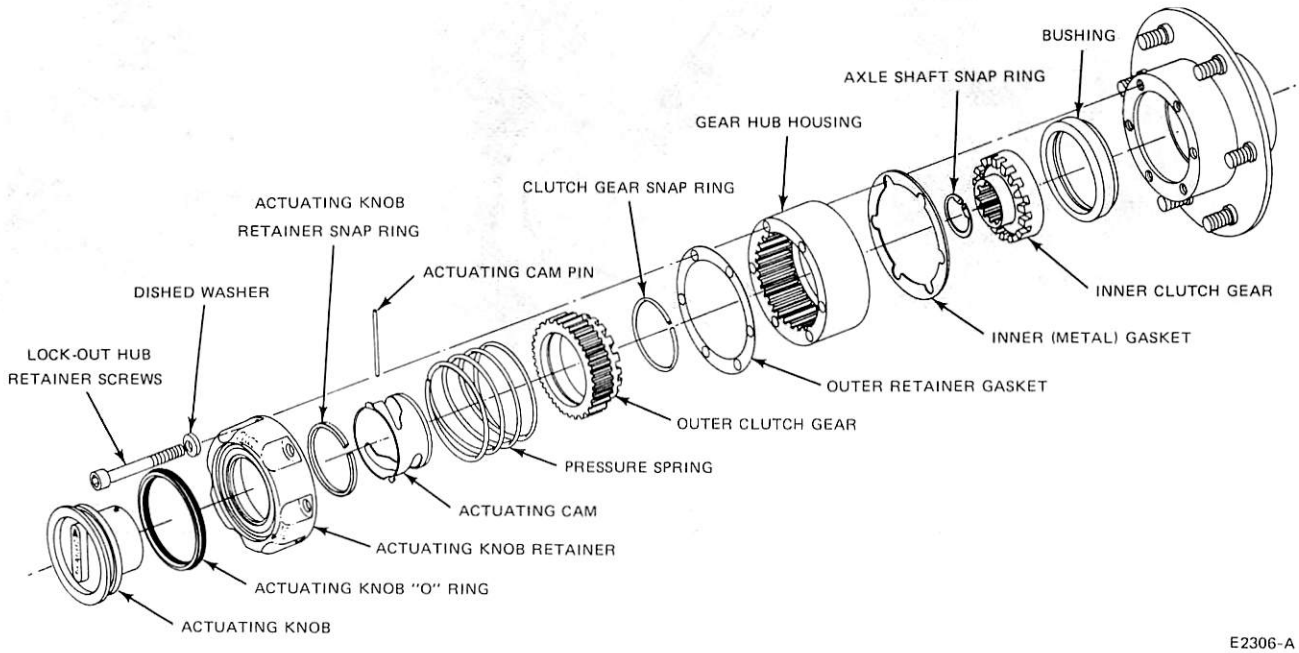

FIG. 15 Lock-Out Hub—External Type (F-250-3500 Lb. Axles)
1. Remove the lock-out hub screws and washers (refer to Fig. 15), and discard them.